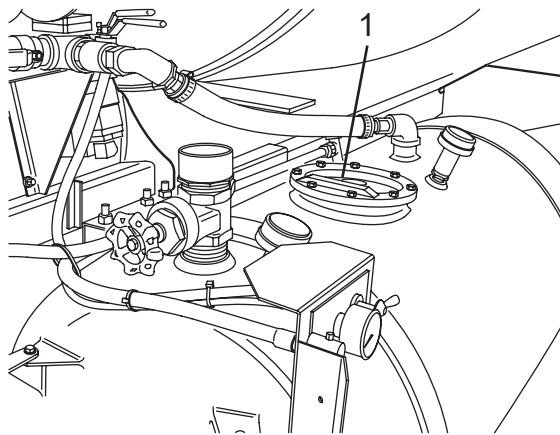

Figure 112
2. Place the water supply hose in the water tank flopper valve (Figure 112, Item 1) and fill the tank.